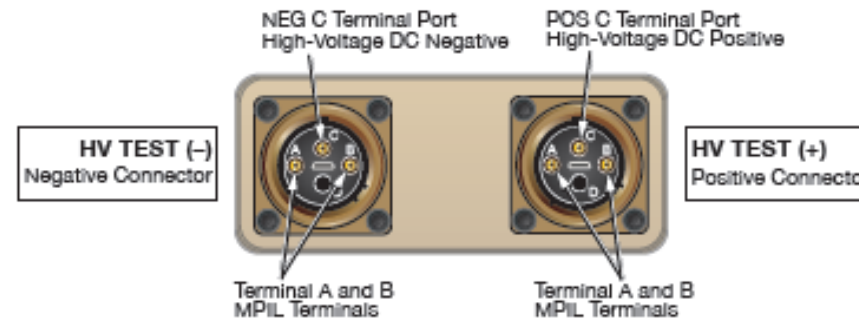

Figure 1-10, HV Test Ports on High-Voltage DC Junction Box
- Locate the “C” terminal ports on both the NEG and POS measurement ports (Figure 1-10).
- One at a time, insert the black meter probe (NEG) into the NEG C port and then the red meter probe (POS) into the POS C port (Figure 1-10).